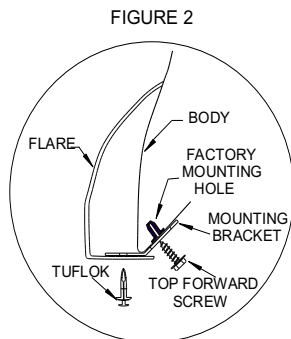

FIGURE 3
- (A) Remove and save 3 screws from inside lip of wheel well. Remove and save 2 outer screws securing mud flap to vehicle. If vehicle has no chrome strips, insert the supplied plastic grommets into holes in wheel well lip. **See Figure 3.**
- (C) Secure flare to fender using the screws removed in step 3A and the screws supplied in the kit. **See Figure 3.** Leave the front most of the top three screws loose, to allow alignment with the bumper piece. **(See Step 4, (K) for tightening.)**
- (A) Hold bumper piece in place on bumper, aligning it with the flare, the top of the bumper, and the inside lip of bumper. **See Figure 3 and 6.**
- (B) Mark four holes using the bumper piece as a guide and remove bumper piece.
- (C) Drill three 1/4" holes in bumper lip for the speed screws. **See Figure 3 and 6.**